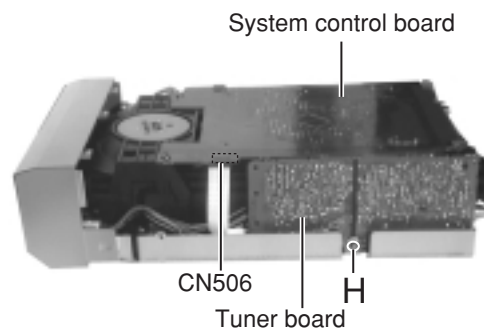

Fig. 11
■Removing the tuner board (See Fig.11)